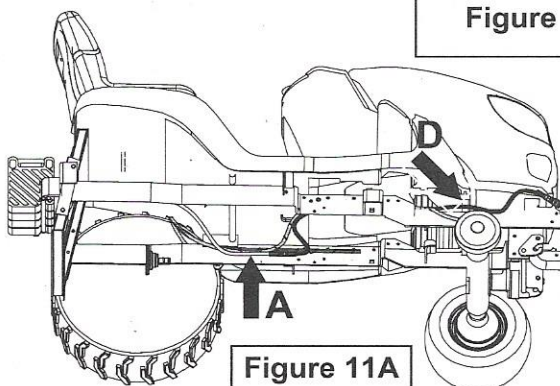
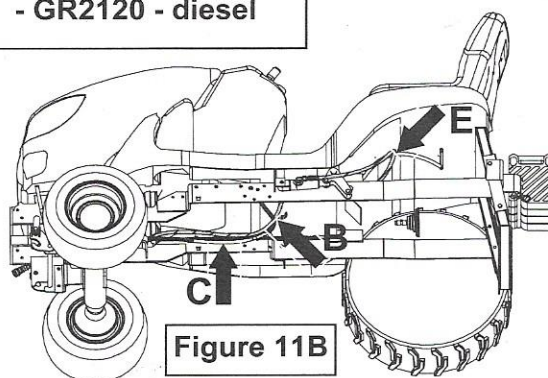
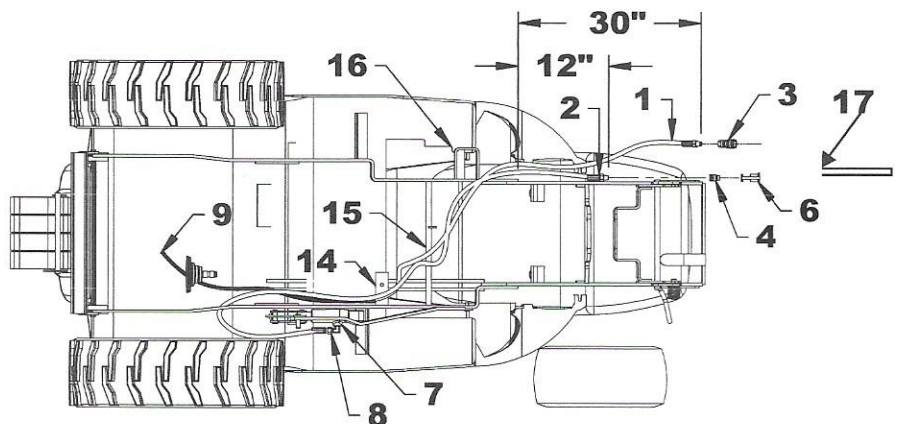

Figure 11A
Figure 11B
Figure 11 - GR2020 - gas
7. Pass the two hoses along the frame on the left side, with one tractor hose (item 10). Attach without tightening with a tie wrap at the place indicated by the letter **A** on figure 11A.
8. Look for the steel tubes of the tractor hydraulic system (item 11) and pass the two hoses close. Attach without tightening with a tie wrap the two hoses (item 1 & 2) to the steel tubes of the tractor hydraulic system (item 11) at the place indicated by the letter **B** on figure 11B.
9. Then pass the hoses on the right side of the tractor following the electric system loom (item 12). Attach without tightening with a tie wrap the two hoses (item 1 & 2) to the electric system loom (item 12) at the place indicated by the letter **C** on figure 11B.
10. Bring out the hoses (item 1 & 2) from the free space behind the motor support (item 13).
11. Get out from under the tractor and go to the right front side of the tractor. Pull out a 30" average length of the 60" hose (item 1) and a 12" average length of the 75" hose (item 2). Attach the hoses individually with a tie wrap to the frame plate of the tractor indicated by the letter **D** on figure 11A.
12. Install the 23" lg protective nylon sheath (item 14) over the 60" hose (item 1).
13. **Figure 11 - GR2120 or GR2020:** Get out from under the tractor and go to the rear left side of the tractor. Attach with a tie wrap the 75" hose (item 2) with the hose coming from the tractor (item 9) at the place indicated by the letter E on figure 11B to prevent interference with the rear tire. Cut off the excess length of the tie wrap.
14. **Figure 11 - GR2120 or GR2020:** Apply thread sealant on the 1/4"NPT end of the 75" hose (item 2) and install the male 1/4"NPT quick coupler (item 4) on the 75" hydraulic hose (item 2).
15. **Figure 11 - GR2120 or GR2020:** Apply thread sealant on the 1/4"NPT end of the 60" hose (item 1) and install the female 1/4"NPT quick coupler (item 3) on the 60" hose (item 1).